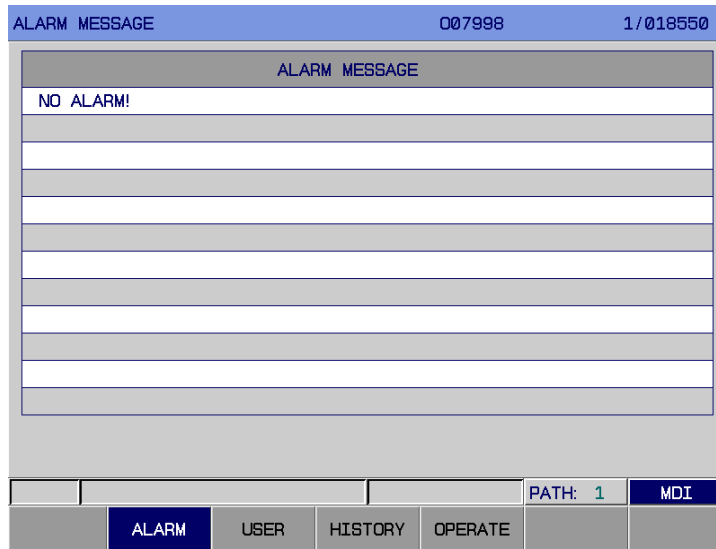
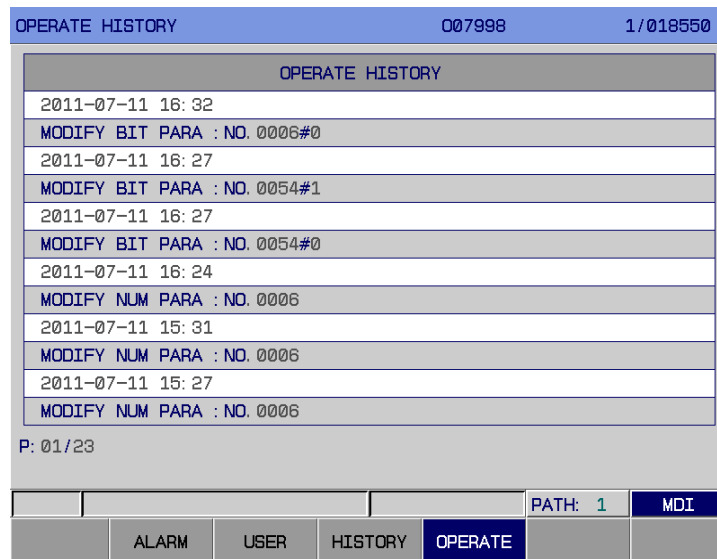

Fig. 3-7-1
Fig. 3-7-4
to display the alarm page. There are 4 subpages: **【ALARM】** , **【USER】** , **【HISTORY】** and **【OPERATE】** , all of which can be viewed by the corresponding soft keys (See Fig.3-7-1 to Fig.3-7-4) . Whether the page is switched to alarm page when an alarm occurs can also be set by bit parameter No: 24#6.
1. Alarm page In <ALARM> page, press soft key **【ALARM】** to enter this page, as is shown in fig.3-7-1.
4. OPERATE page In <ALARM> page, press soft key 【OPERATE】 to enter this page, as is shown in Fig. 3-7-4: